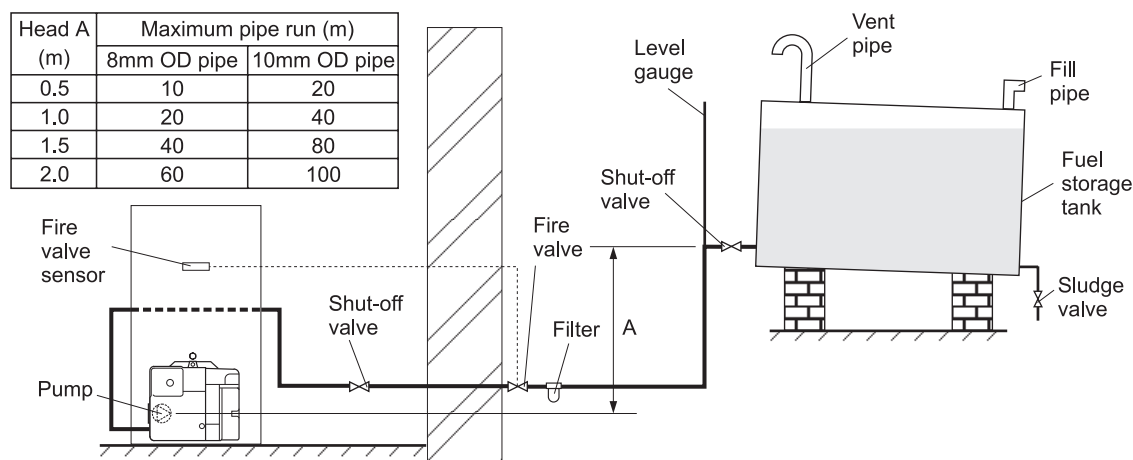

Fig. 5 - Single pipe system
- 5 A flexible fuel line, adaptor and $\frac{1}{4}$ " BSP isolation valve are supplied loose with the boiler for the final connection to the burner. If a two pipe system or Tiger Loop system is used, an additional flexible fuel line (600 mm) and $\frac{3}{8}$ " to $\frac{1}{4}$ " BSP male adaptor are available from Grant Engineering (UK) Limited (Part No. RBS104).
5.3.3 Single pipe system - (See Fig. 5)
- When the storage tank outlet is below the burner, the two pipe system should be used. The pipe runs should be as shown in Fig. 5. The return pipe should be at the same level in the tank as the supply pipe, both being 75 to 100 mm above the base of the tank. The pipe ends should be a sufficient distance apart so as to prevent any sediment disturbed by the return entering the supply pipe.